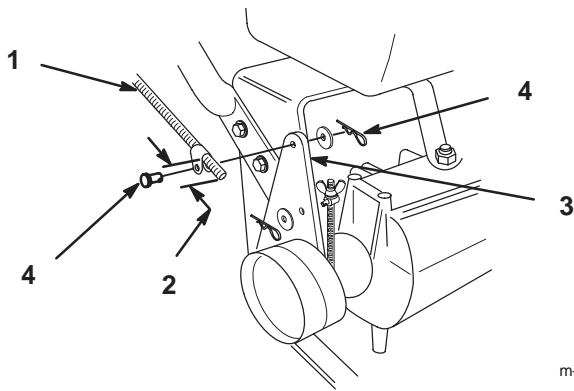

Figure 11
1. Thread rod fittings equal distance onto each control rod. For a starting point thread on approximately 2 in. (51 mm) (Fig. 11).
2. Slide clevis pins through rod fittings and mounting holes in idler brackets (from outside) (Fig. 11). Secure with washers and hairpin cotters (Fig. 11).